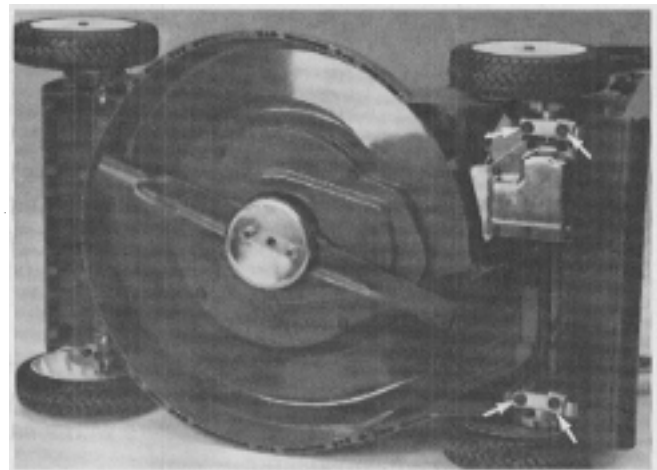

Figure 53
4. Slip the two rear end cap fasteners through the safety shield guide wires and install the end caps. Tighten the right two end cap fasteners. See Figure 53.